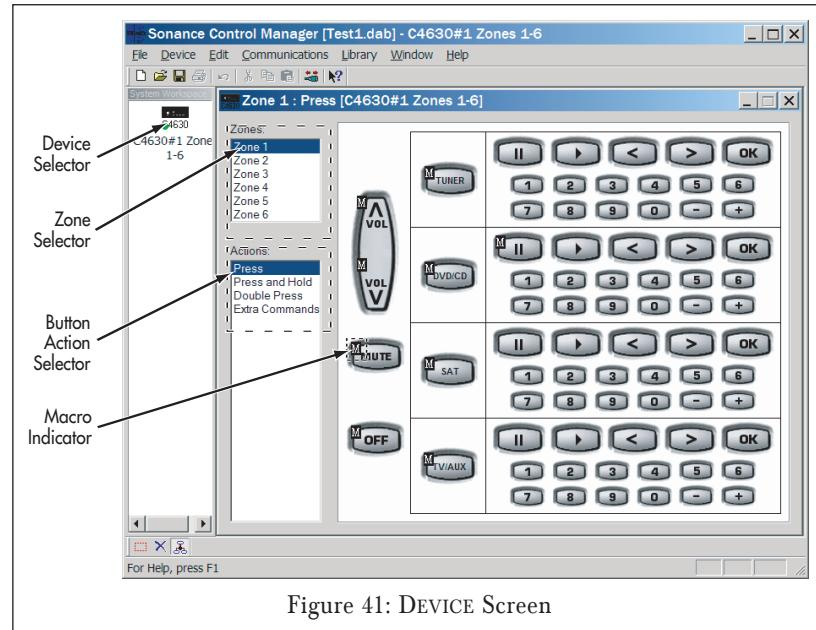
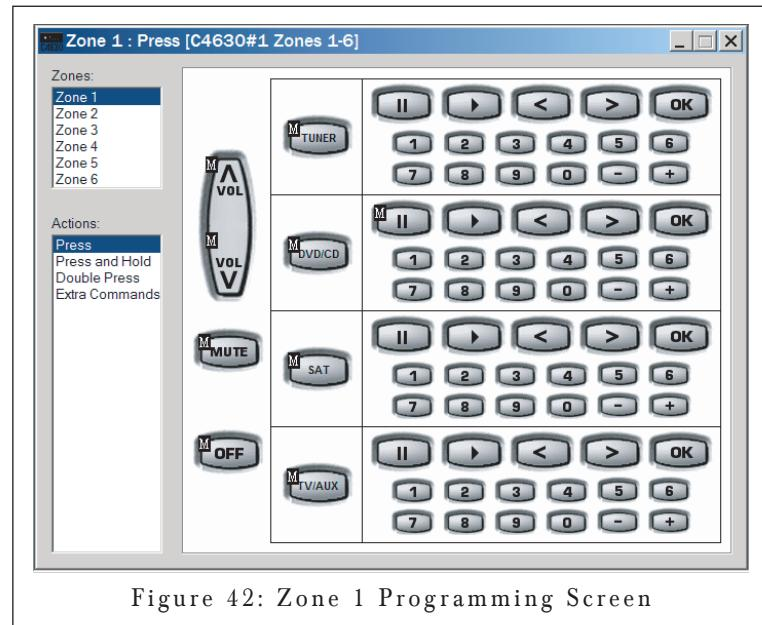

Figure 41: DEVICE Screen
Figure 42: Zone 1 Programming Screen
Device Screen (Figure 41)
1. Open the DEVICE screen (see *Figure 41*, on page 31).
2. If the system has more than one C4630 SE, use the DEVICE SELECTOR (see *Figure 41*) to select the one you want to program. The Zone 1 programming screen for that C4630 SE will appear (see *Figure 42*).
1. Open the system and select the C4630 SE. the Zone Programming Screen (*Figure 42*, on page 32) will appear.